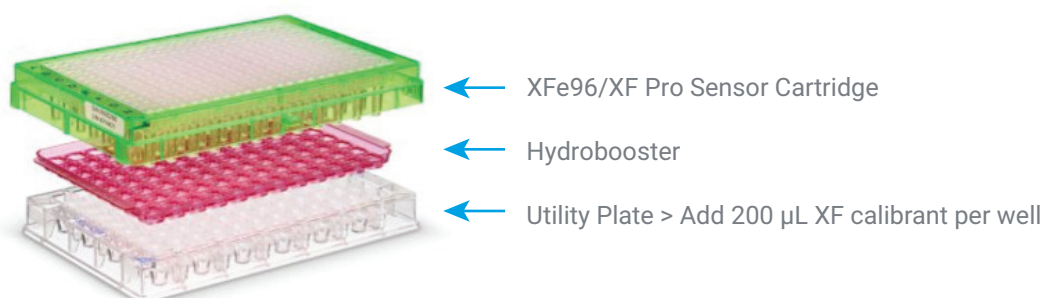

Figure 1. Assembly of the Agilent Seahorse XF Pro Hydrobooster with the Agilent Seahorse XFe96/XF Pro sensor cartridge and utility plate.
5. Lower the sensor cartridge through the openings on the XF Hydrobooster plate into the utility plate, submerging the sensors in XF calibrant (Figure 1).